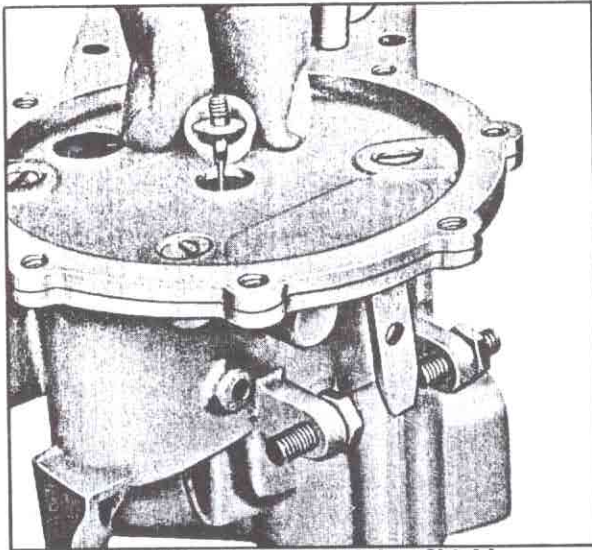

Fig. 150—Installing Nylon Shield
9. Insert nylon shield (fig. 150) onto main control diaphragm link and push it flush into hole in fuel meter cover.